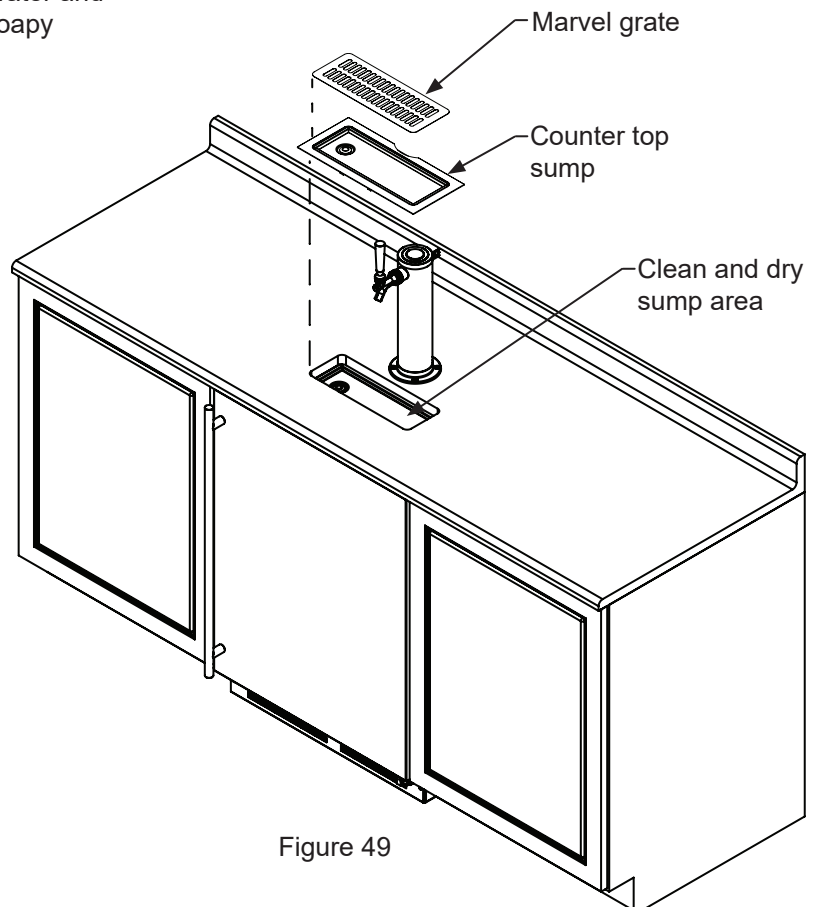
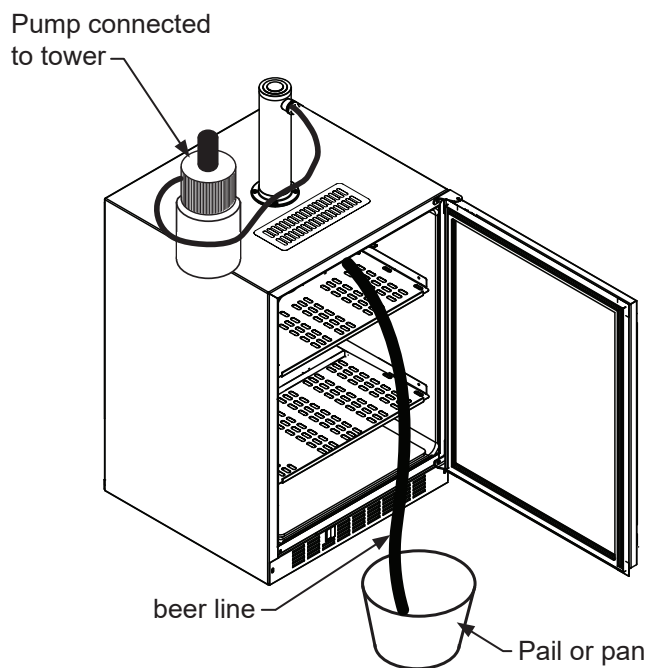

Figure 49
Figure 54
On a **built in beverage dispenser** remove the Marvel grate and counter top sump, clean with soap and water and dry before reinstalling. Clean the sump area with soapy water and dry. (See Figure 49).
12. Remove the front toe-grille, (see Figure 54 and Figure 49), and use a brush and vacuum to clean dirt and debris from beneath the unit.